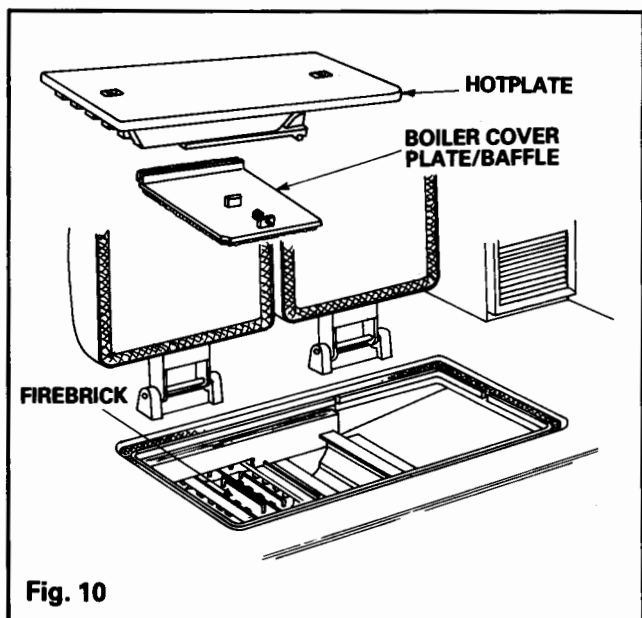

Fig. 10
5. Lift up the insulating covers and remove the hotplate. This removal will expose a boiler cover baffle (Fig. 10) which should be removed and the firebricks checked for non-displacement. Replace boiler cover baffle correctly (Fig. 10) and hotplate ensuring it seals around its edge.